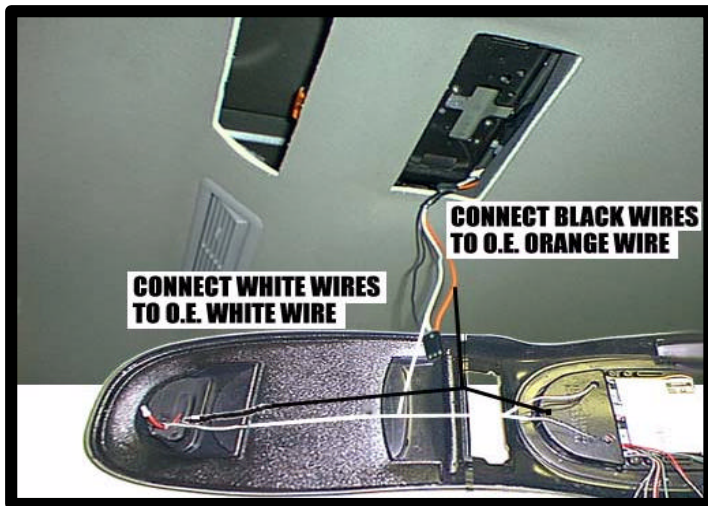

Figure 16
1. Construct a jumper harness that will connect the vehicle's dome light wires to the lights in the console and video system. Connect the white wires from lights to the O.E. white wire. Connect the black wires from lights to the O.E. orange wires. Do not use O.E. black wire. See Figure 16.